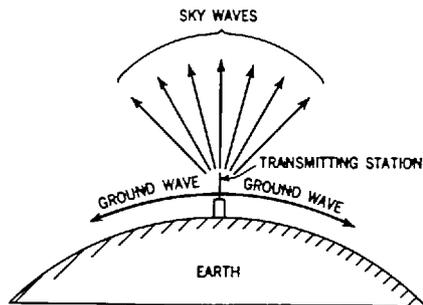

Fig. 36-4. Diagram showing how a transmitting station sends out ground and sky waves.
**The Radio Wave Is Transmitted by Ground Wave and Sky Wave.** When a radio wave leaves the transmitting antenna, it spreads out in all directions. One portion travels along the surface of the earth and is, accordingly, called the *ground wave*. Another portion is radiated out into the sky and is appropriately called the *sky wave* (Fig. 36-4).